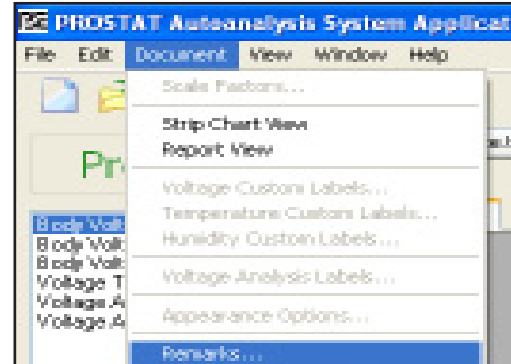

Figure 42: Select Remarks from Document Menu to Add Reports Comments
3. To create a fourth page of remarks, press Document and select Remarks on the drop down menu (Figure 42). All remarks entered in the opened window will appear on the fourth page of the report.